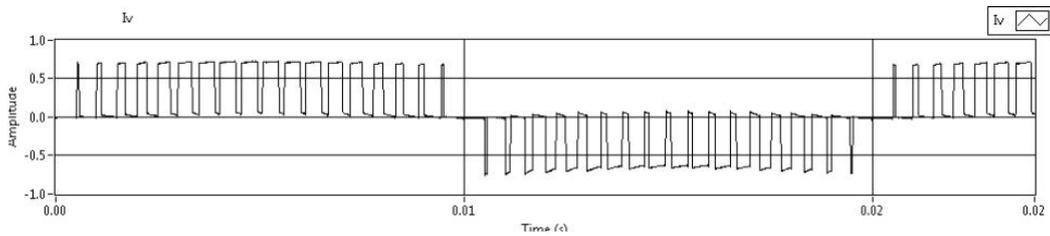

Figure 24 Measured load current  $I_v$
26. Confirm correct waveform is obtained in the load current,  $I_v$ . Compare with Figure 24.